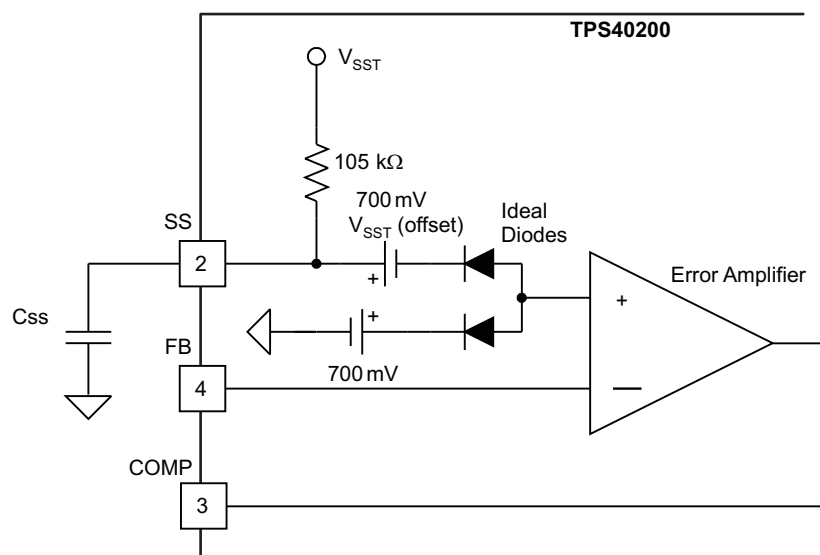

Figure 30. Soft-Start Circuit
An external capacitor,  $C_{SS}$ , connected from the soft-start (SS) pin to ground controls the TPS40200 soft-start interval. An internal charging resistor connected to VDD produces a rising reference voltage, which is connected through a 700-mV offset to the reference input of the TPS40200 error amplifier. When the soft-start capacitor voltage ( $V_{CSS}$ ) is below 150 mV, there is no switching activity. When  $V_{CSS}$  rises above the 700-mV offset, the error amplifier starts to follow  $V_{SST} - 700$  mV, and uses this rising voltage as a reference. When  $V_{CSS}$  reaches 1.4 V, the internal reference takes over, and further increases have no effect. An advantage of initiating a slow start in this fashion is that the controller cannot overshoot because its output follows a scaled version of the controller's reference voltage. A conceptual drawing of the circuit that produces these results is shown in Figure 30. A consequence of the 700-mV offset is that the controller does not start switching until the  $V_{CSS}$  has charged up to 700 mV. The output remains at 0 V during the resulting delay. When  $V_{CSS}$  exceeds the 700-mV offset, the TPS40200 output follows the soft-start time constant. Once above 1.4 V, the 700-mV internal reference takes over, and normal operation begins.